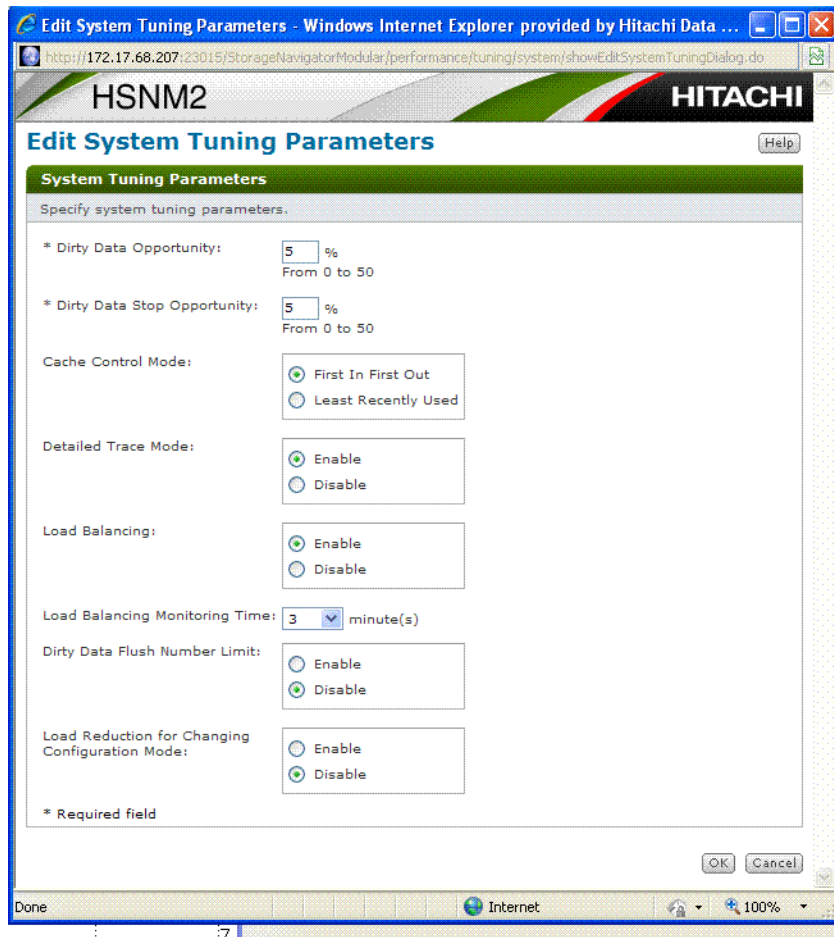

Figure 8-14: Edit System Tuning Parameters dialog box
5. In the System Tuning list, click on the **Edit System Tuning Parameters** button to display the Edit System Tuning Parameters dialog box as shown in Figure 8-14.